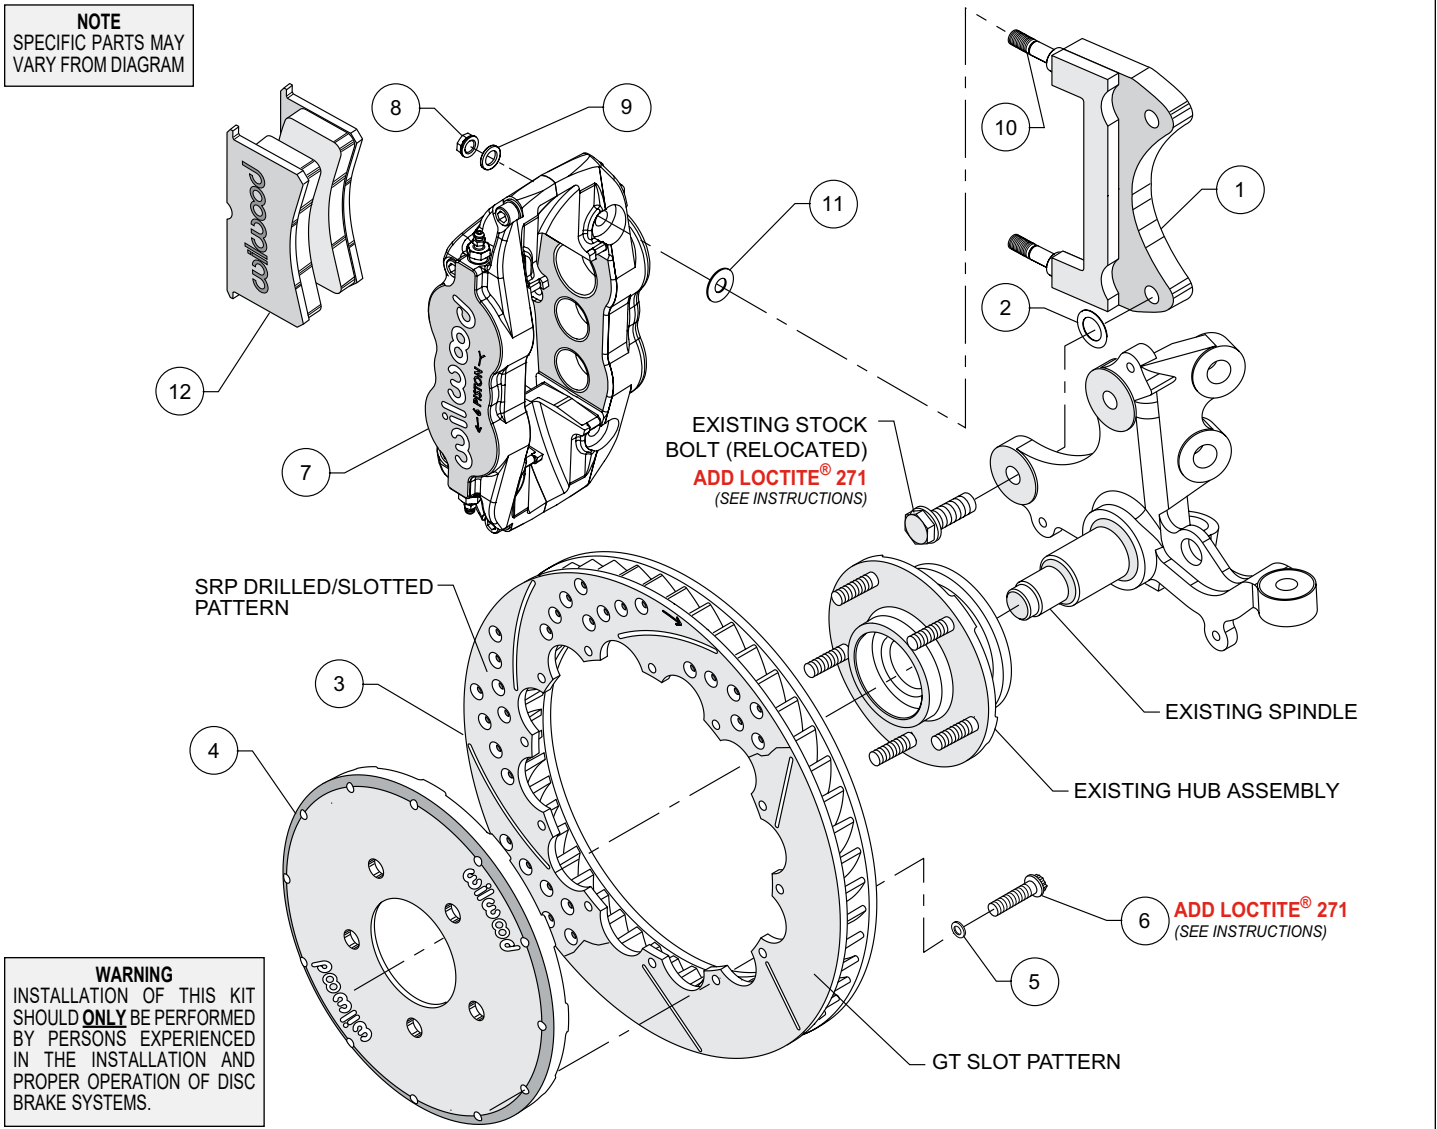
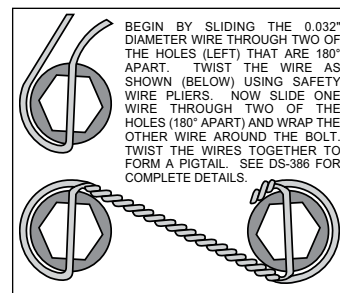

Figure 1. Typical Installation Configuration
Figure 3. Safety Wire Diagram
- The caliper mount bracket (1) should initially be installed with clean, dry threads on the mounting bolts. Orient the bracket as shown in Figure 1, and using stock bolts (Install the stock bolts from the near side, opposite from the way they were removed). Initially place one .033 thick shim (2) on each bolt between the bracket and upright, Figure 1. Temporarily tighten the mounting bolts. **NOTE: The bracket must fit squarely against the mount bosses on the upright.** Inspect for interference from casting irregularities, machining ridges, burrs, etc. Later, after the caliper alignment has been checked, the mount bolts will be secured using red *Loctite*® 271.
- Orient the rotor (3) and the hat (4) as shown in Figure 1 and Photo 1. Attach rotor to hat using bolts (6) and washers (5). Apply red *Loctite*® 271 to the bolt threads and torque to 155 **in-lb** using a criss-cross pattern. For an added measure of security, the bolts may be safety wired using standard 0.032 inch diameter stainless steel safety wire as shown in Figure 3. Please refer to Wilwood's data sheet DS-386 (available at www.wilwood.com/Pdf/DataSheets/ds386.pdf) for complete safety wire installation instructions.
- **NOTE:** This kit contains distinct right and left hand calipers that must be mounted in a specific direction, as described below. Initially place one .035" thick shim (11) on each stud (10) as shown in Figure 1 and Photo 2. Mount the caliper (7) onto the bracket (1) using lock nuts (8) and washers (9), Figure 1. Ensure that the caliper is mounted so that the largest pistons are at the rotor exit end of the caliper, in relation to the direction of rotor rotation. Temporarily tighten the lock nuts and view the rotor through the top opening of the caliper. The rotor should be centered in the caliper, Photo 3. If not, adjust by adding or subtracting shims (2) between the bracket and the upright. Always use the same amount of shims on each of the two mounting bolts. Once the caliper alignment is correct, remove the bracket mounting bolts one at a time, apply red *Loctite*® 271 to the threads, and torque stock bolts to 65 ft-lb.